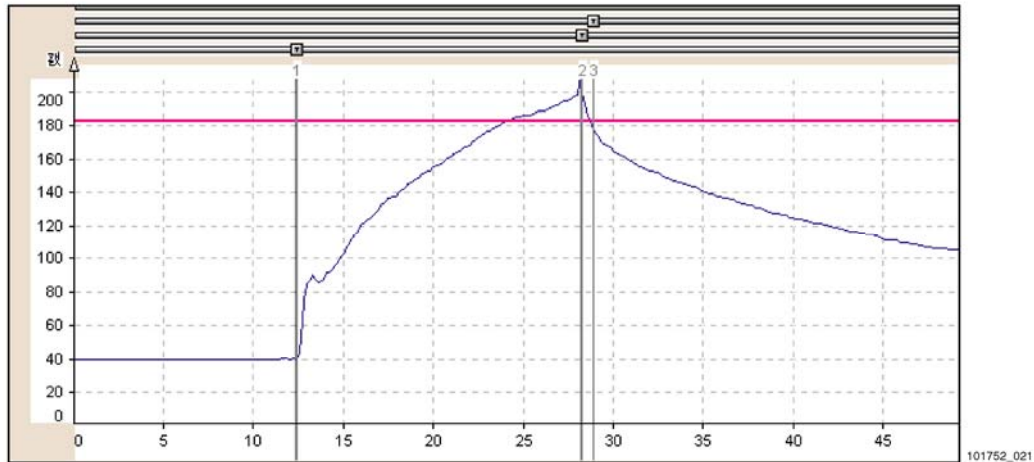

Figure 21. Typical Temperature Profile (SnPb Eutectic Solder) at the Solder Pads During Rework of MCM-L PA Modules
In the removal process, a convective heater is recommended to heat the bottom side of the board and hot gas, or air, to heat the top side of the component. Special nozzles should be used to direct the heat in the component area to minimize heating of adjacent components. Excessive airflow should also be avoided, as this may cause the MCM-L modules to skew or overheat. Figure 21 shows a typical temperature profile at the PA solder pads during removal for the SnPb eutectic solder. The solder joints will melt above 183 °C and the component can be readily removed from the PCB assembly.
2. Using a top side hot-air nozzle, run a reflow profile with the similar heating rate as that shown in Figure 21 until the solder joints reach visible melting